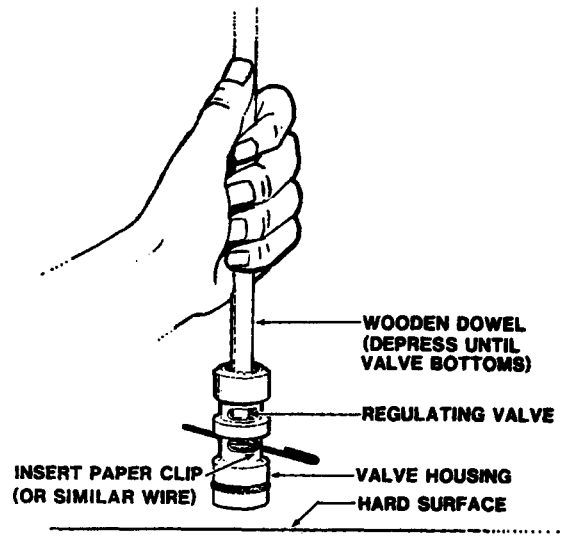

Figure 9.38. Positioning OPRV Assembly for Inspection
2. Place the OPRV assembly on a hard, flat surface. Using a wooden dowel, depress the valve plunger until it bottoms. While holding the plunger in position, insert a wire such as a paper clip, through the valve housing and valve as shown in Figure 9.38.